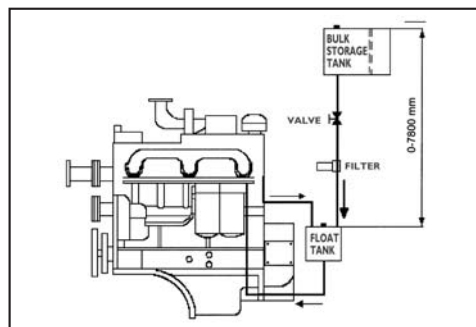

**Figure 4.7** Typical fuel drawing of a fuel tank placed below the engine
- ! In the simplest tank settlement, the fuel level should not be above the injectors and should not be lower than the fuel pump for more than 1.8 m, see Figure 4.7.